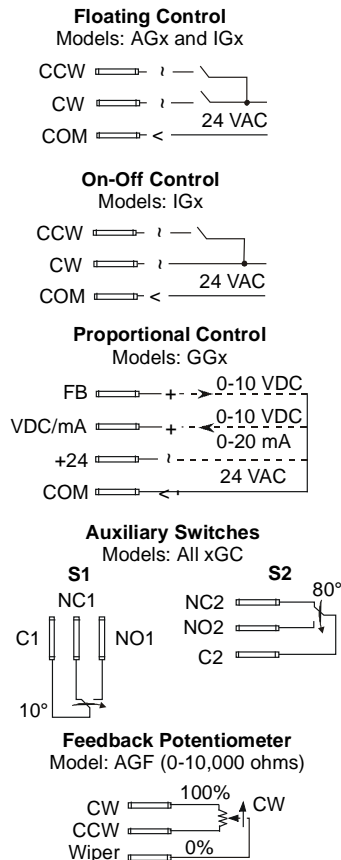

Figure 10: Wiring for M9106 Models
The actuator requires a 24 VAC control signal and is compatible with a variety of controllers. (See Figure 10.)
- Insert the cable wires through the plastic plug, compression fitting, or conduit fitting, and connect to the terminals using the appropriate wiring diagram in Figure 10.
Note: At this point, the normally closed contact closes, and the normally open contact opens. (See Auxiliary Switches in Figure 10.)
Note: At this point, the normally closed contact opens, and the normally open contact closes. (See Auxiliary Switches in Figure 10.)